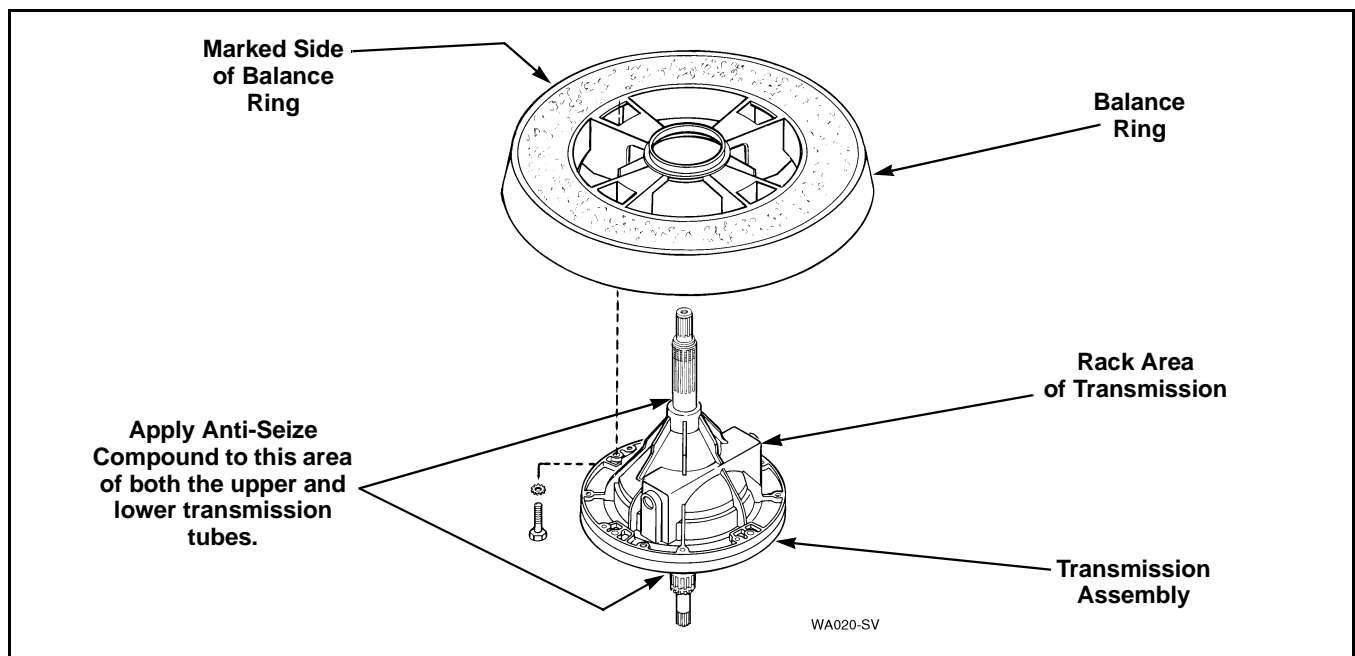

Figure 47
**IMPORTANT:** When installing lower bearing housing, apply No. 27604P Anti-Seize compound to the area of transmission tube that will be contacting bearing. Refer to *Figure 47*.
**IMPORTANT:** When installing lower bearing housing pivot dome and brake assembly, apply No. 27604P Anti-Seize Compound to area of transmission tube that will be contacting bearing. Refer to *Figure 47*.
**IMPORTANT:** When replacing or reinstalling transmission assembly, it is important that No. 27604P Anti-Seize Compound be applied to area of the transmission tubes where they will be contacting upper and lower bearings. Refer to *Figure 47*.
**This heavy side must be installed opposite the rack of the transmission assembly. Refer to *Figure 47*. Carefully lower transmission through balance ring and upper bearing. DO NOT DROP OR LOWER TRANSMISSION ASSEMBLY INTO POSITION TOO HARD as this can cause bearing to move within bearing housing which will cause vibration, noise, wear or no spin.**